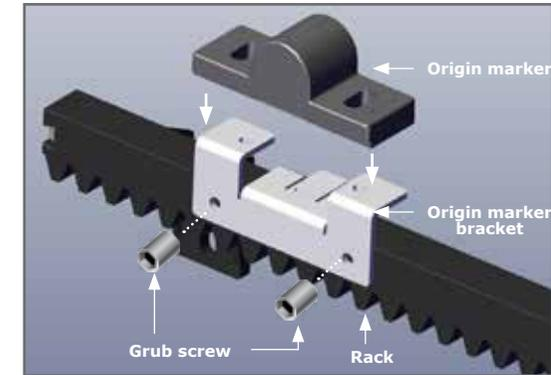

FIGURE 4
2. Using a 4mm size allen key, place and tighten the two grub screws so that the bracket is firmly attached as shown in Figure 4.